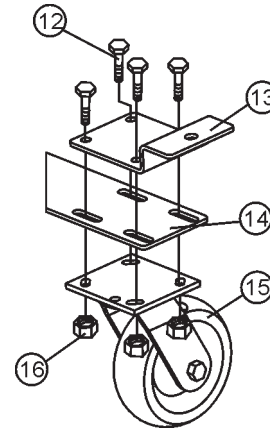

Figure 1. Castor Wheel Assembly
1. Assemble the Caster wheels (Figure 1) - Place the Caster mount plate on the adjustment plate so the bolt holes line up. Insert bolts through the holes in the two plates and push the caster wheel onto the bolts. Loosely secure the caster wheel to the adjustment plate using the provided nuts to allow for adjustment when attaching the caster wheels to the cabinet. Repeat for the other side of the caster wheel assembly.